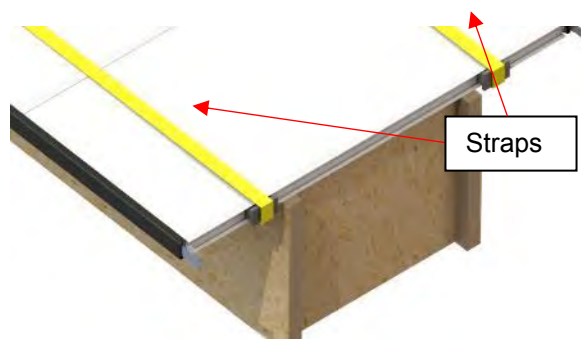
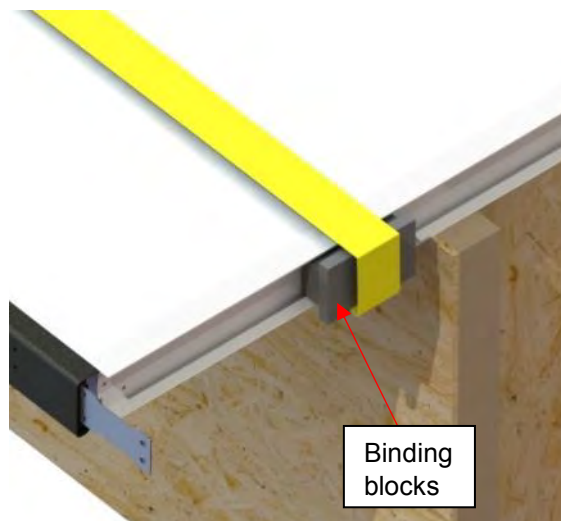

Figure 60
Figure 61
- 15) Use the binding blocks provided and two 50 ft (15 m) ratchet straps to help you align the side holes on the other end of the assembly (Figure 60 and Figure 61).
- ♦ Ensure the binding blocks are correctly positioned when strapping. This will prevent the straps from bending the I-beam (Figure 61).